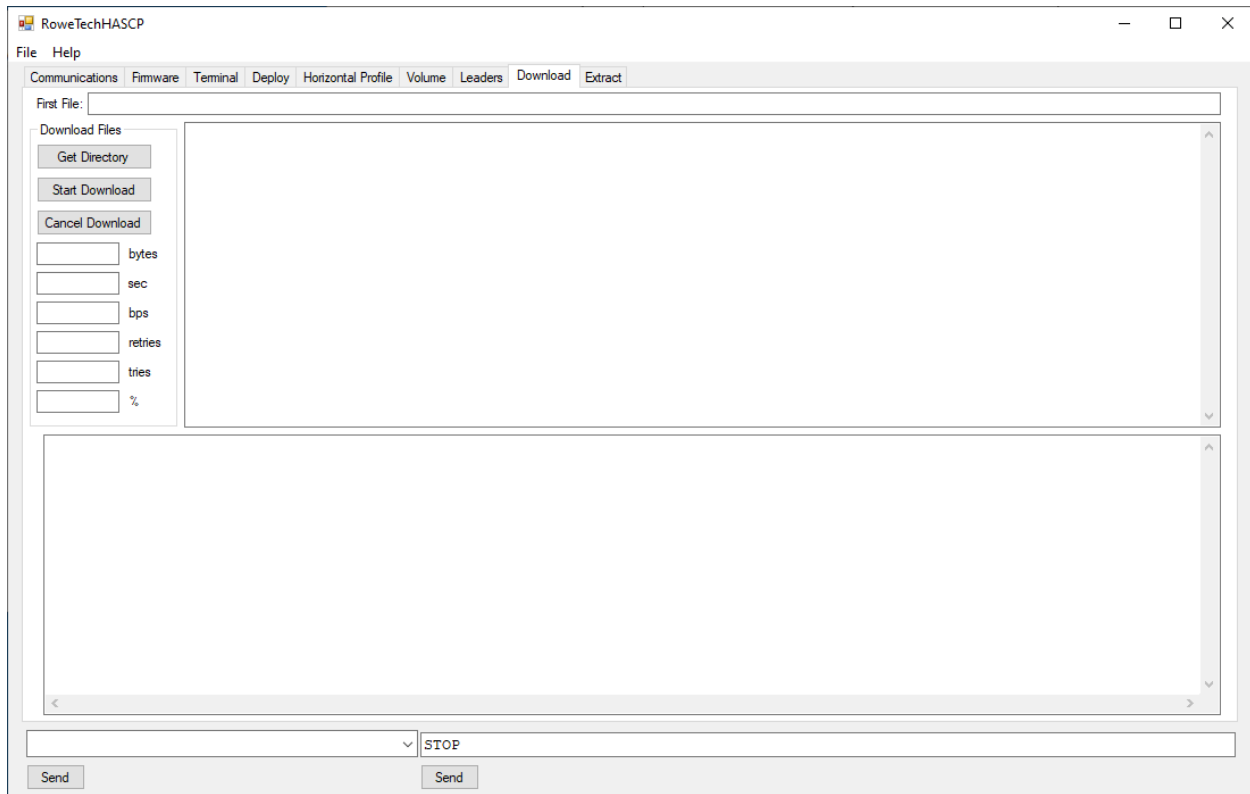
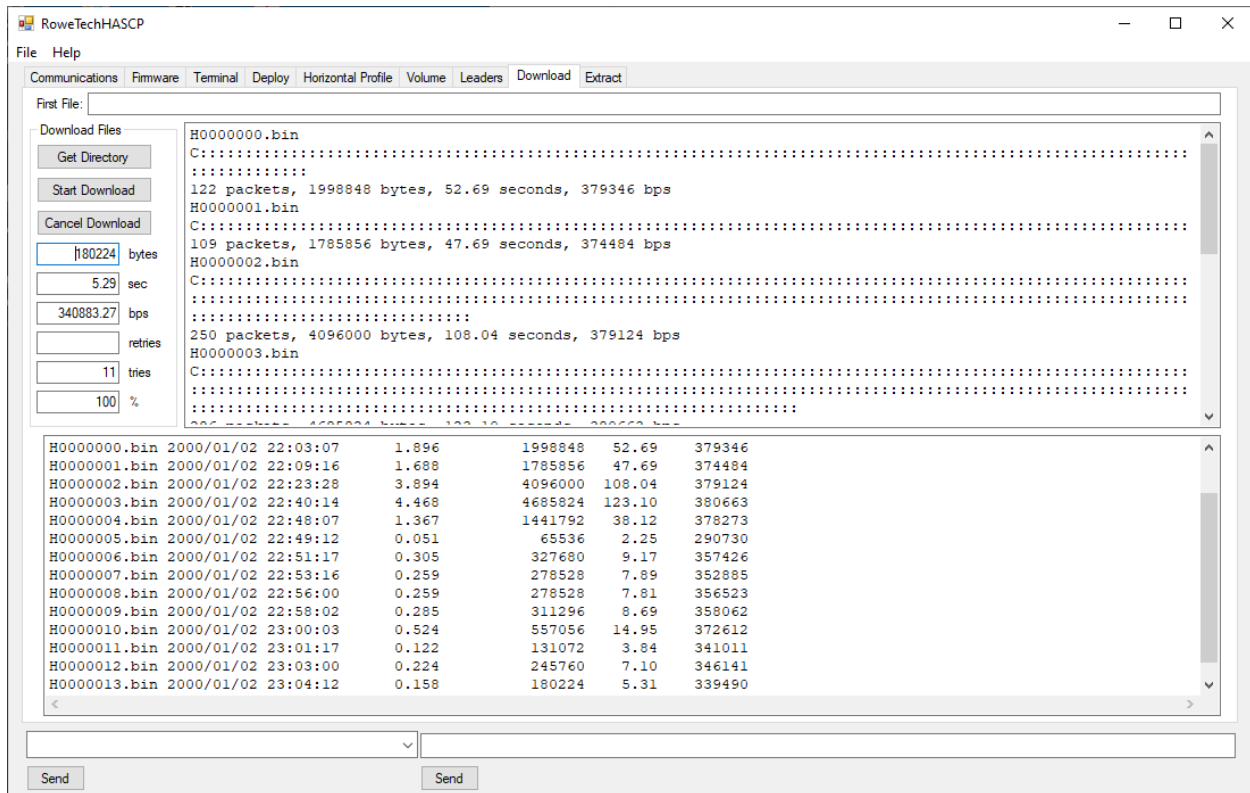

Figure 12. Download Tab in RTI HASCP software with no files
Figure 13. Download Tab in RTI HASCP software showing files getting downloaded.
- a. Click the Download TAB near the top center of the software window. Refer to Figure 12 and Figure 13.